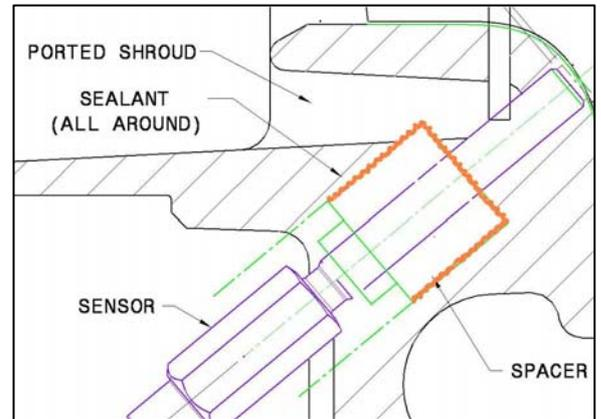

Fig. 4
4. Once the housing is machined, install the spacer with the supplied M4 screw. There are different lengths of screws supplied in the kit; the layout drawing shows which screw to use on each turbo. Do not torque the screw at this point. If your housing has a ported shroud and the machined spacer pocket has broken through to the inside, coat the outside of the spacer with RTV or similar sealant to prevent an air leak past the spacer (see figure 4).